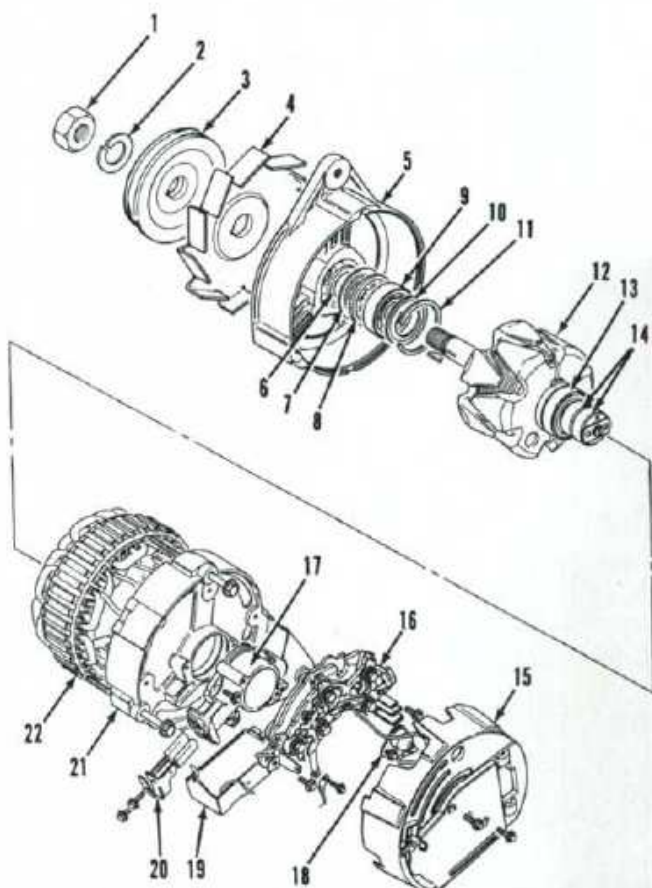

Fig. 64—Exploded view of Lucas Model A115-45 alternator.
**79. DISASSEMBLY.** To disassemble the alternator, unbolt and remove end cover (15—Fig. 64). Disconnect yellow and black wires, then remove regulator (19). Remove outer brush screw and remove brushes (20). Unbolt and remove brush box (17). Place an alignment chalk mark across drive end frame (5), stator (22) and slip ring end frame (21). Remove the three through-bolts and remove stator (22) and slip ring end frame (21) assembly. Unsolder stator wires from rectifier (16), remove three mounting screws and lift off rectifier (16). Remove nut (1), lockwasher (2), pulley (3) and fan (4), then press rotor (12) from drive end frame. Remove snap ring (11) and dished washer (10), then press bearing (9), seal ring (8),
To renew rear bearing (13—Fig. 64), unsolder slip ring connecting wires and remove slip rings (14). Press rear bearing off the rotor.